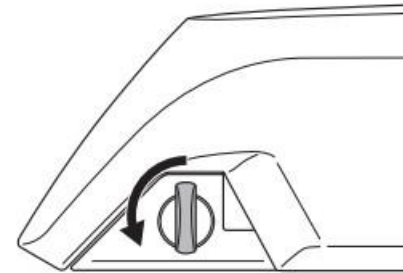

Figure 5.6
2. Unlock the battery. Turn the key until you feel it engage. See Figure 5.6.